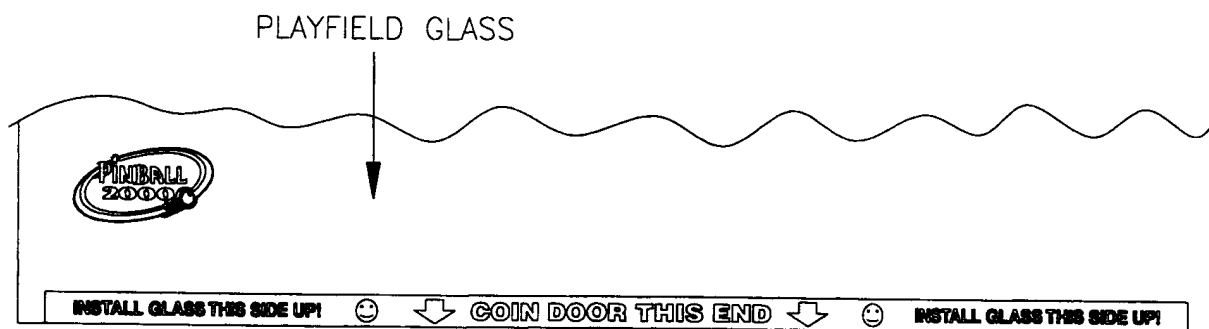

Figure 11
- Replace the playfield glass. Be sure that the **PINBALL 2000** logo is in the lower left corner and that the 'smiley' faces are visible. See Figure 11 below. Snap the front molding securely into place. Close and lock the coin door.